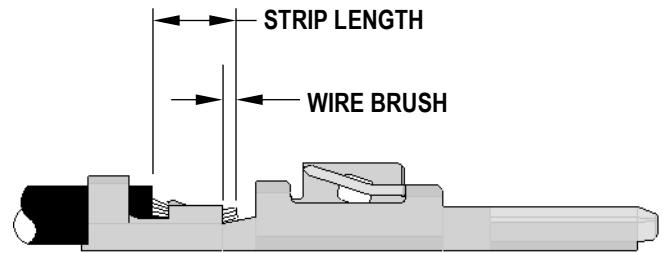

Figure 4.9.3
3. Inspect wire brush length. See Figure 4.9.3.